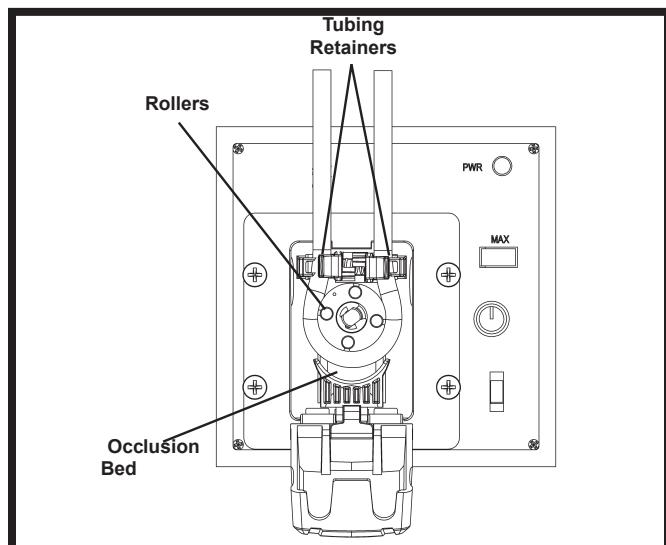

Figure 4. Occlusion Bed in Unlatched Tube Loading Position
- When the door is opened the Occlusion Bed moves back away from the pump rollers, Figure 4.
- Holding both ends of the tubing in one hand, form a loop and wrap the tubing around the **Rollers**, Figure 4, making sure that the tubing is centered on the rollers and keeping the free ends of the tubing outside of the **Occlusion Bed**, Figure 4.
- Insert the tubing into one of the **Tubing Retainers**, Figure 4 by moving the retainer toward the center of the pump and placing the tubing in the v-notch of the retainer. Release the retainer so that the tubing is secured in place. Repeat for the other tubing retainer. The tubing should be stretched slightly around the rollers so that there is no excess tubing between the rollers and the retainers – any excess can be removed by pulling slightly on the tubing outside of the pump.